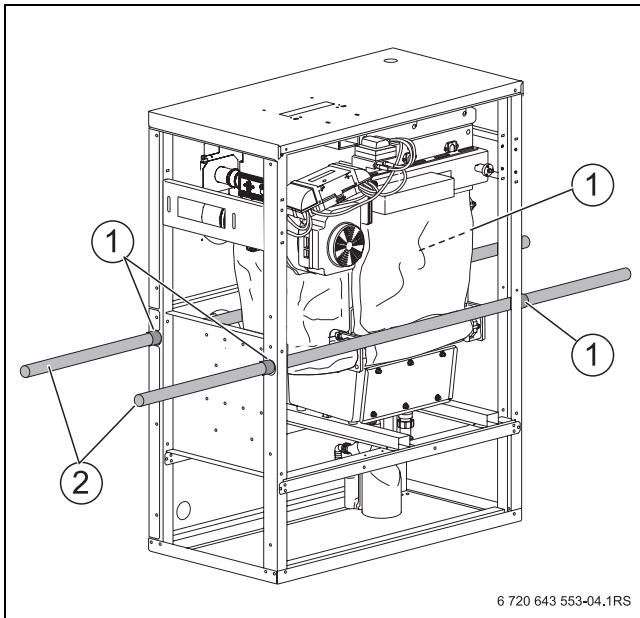

Fig. 5 Transporting the boiler using pipes
- ▶ Secure pipes against slippage at the points shown in Fig. 5 [1], e.g. with adhesive tape.